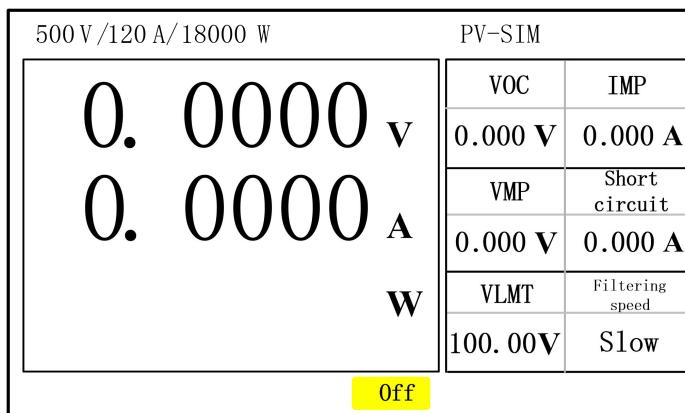

Figure 3- 25 Customized edit interface for photovoltaic file
3. Set“PV-SIM”function parameters, detail as figure3- 9 customized parameter list of photovoltaic function;